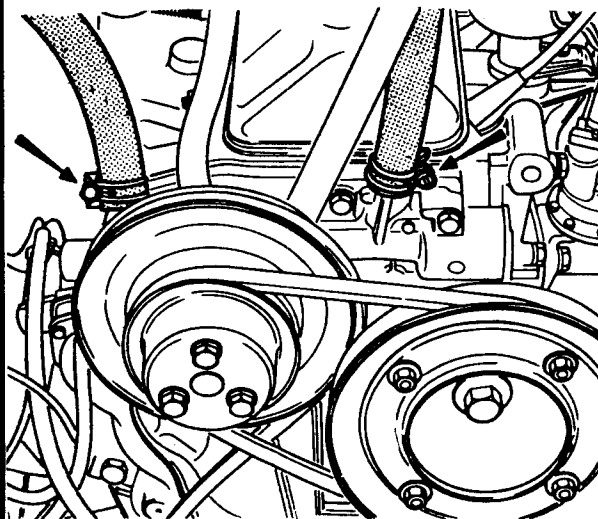

Fig.1.5 Heater hose connections
- 23 Disconnect the heater hoses from their connections with the water pump and cylinder head, Fig.1.5 (photo).